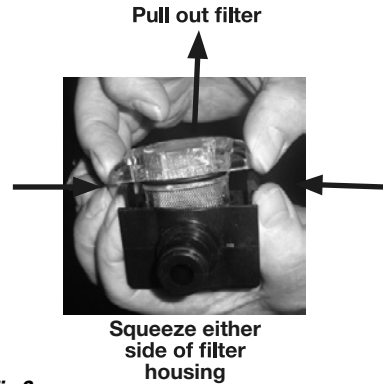

Fig.2
- This is a good time to de-assemble and clean the pump filter (if fitted). Squeeze either side of the filter housing to release the retaining tabs and pull the filter cassette out of the housing. See Fig 2